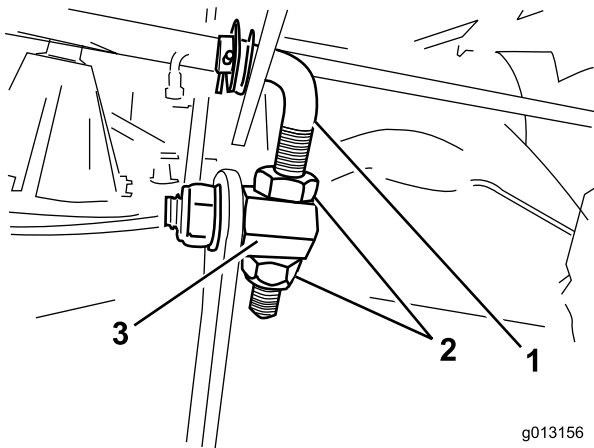
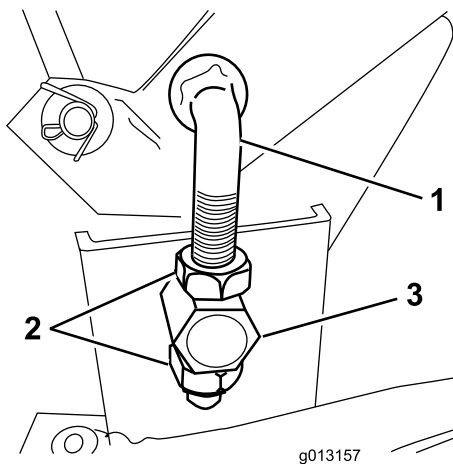

Figure 46
Figure 47
- Loosen the nuts on the front and rear adjustable links (located on the right side of the mower) so that the links are free to move through the trunnions (Figure 46 and Figure 47).